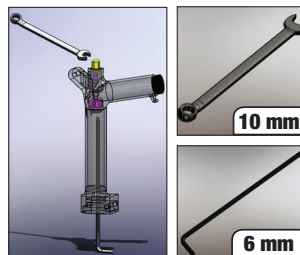

Figure 11
8. For the disassembly of the valve assembly use a 10 mm wrench for the dome nut and a long 6 mm allen wrench for the valve stem (Figure 11).